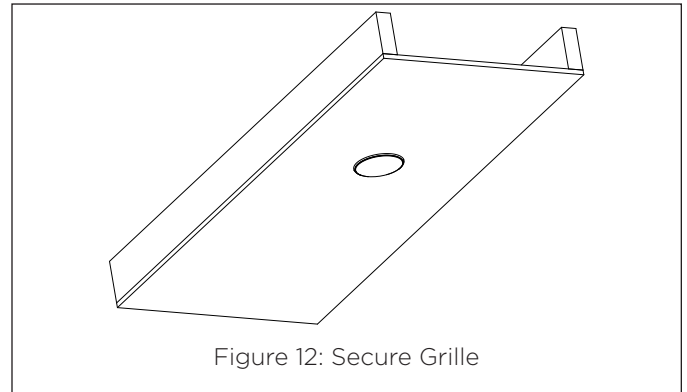

Figure 12: Secure Grille
- Insert the round or square Micro Trim Grille over the grille aligner (see Figure 12).